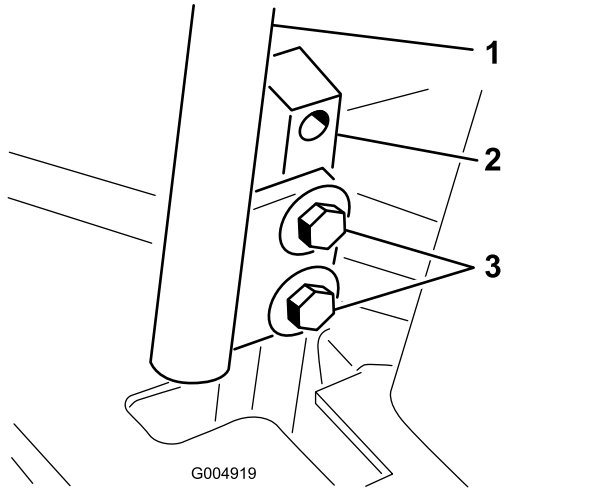

Figure 93
3. Loosen the bolts securing the control levers (Figure 93).